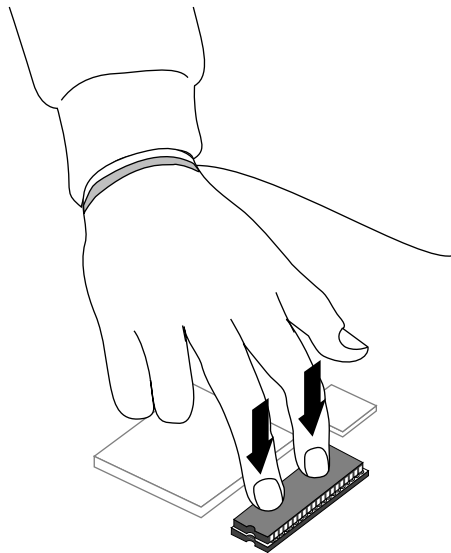

Figure 0-4 Pressing the PROM Chip Into the Socket
4. Once the pins are lined up, press down firmly on the top of the PROM chip until it is completely and evenly seated in the socket, as shown in Figure 0-4.